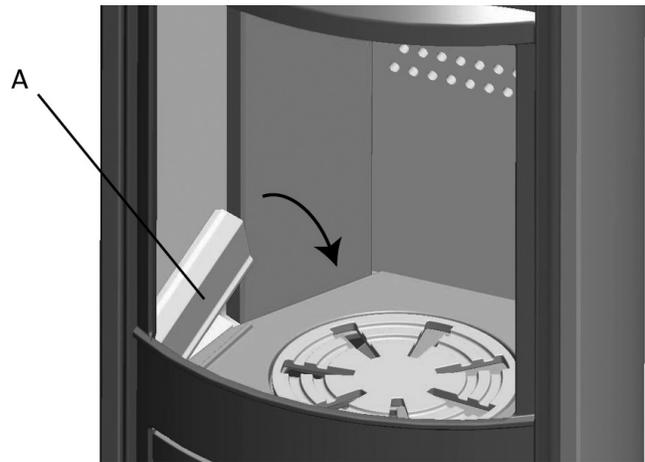

Figure 17. Install the cast iron burn plates.
4. Place the two cast iron Burn Plates into position under the side windows. Fig. 17, A.